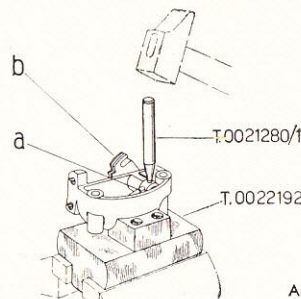

Fig. 97.
1. Mount the shifter casing on fixture T. 0022192 as shown in Fig. 97.